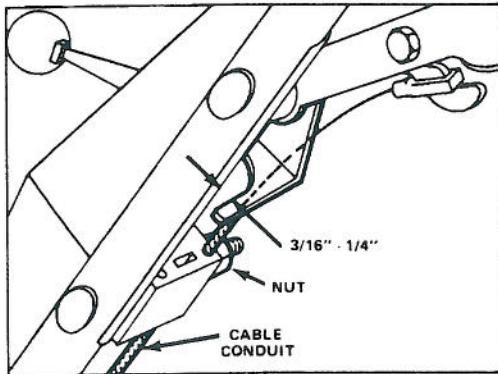

Figure 24
2. CHECK ADJUSTMENT (Fig. 24) — Move control bar toward handle until slack in wire is removed. Gap between brake lever and handle must be $3/16$ "- $1/4$ ". See step 3 for adjustment.
3. ADJUST CABLE CONDUIT — Loosen nut on cable bracket (Fig. 24). Insert $3/16$ "- $1/4$ " object between brake lever and handle. Pull down on cable conduit until all slack is removed from wire. Then tighten nut.